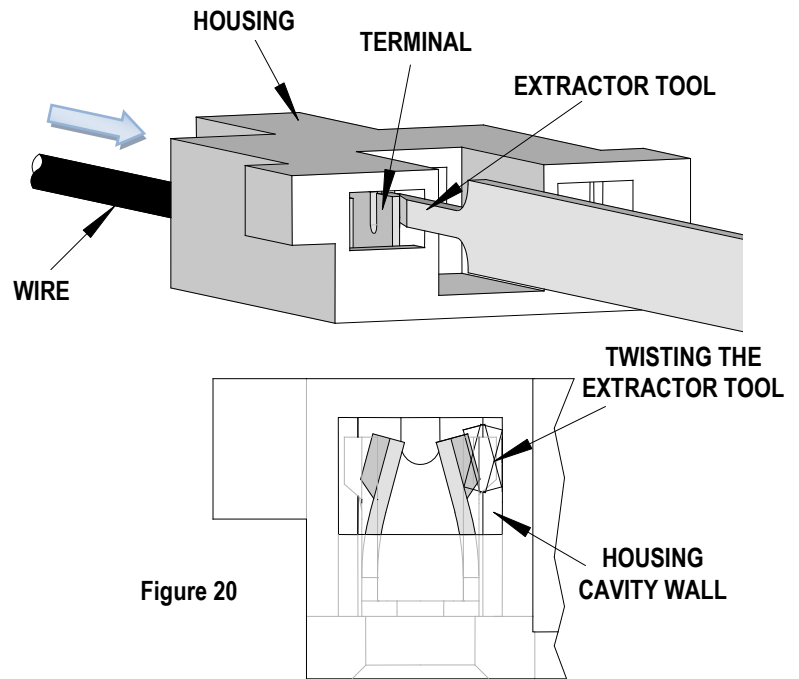

Figure 20
3. Using a twisting action bend the upper "U" channel towards the middle of the terminal. See Figure 20.